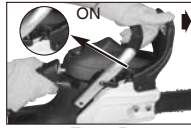

Fig. 7B
2. The CHAIN BRAKE is ENGAGED (chain is stopped) when brake lever is in forward position and the chain brake latch is in the ON position. You should not be able to move chain. (Fig. 7B)